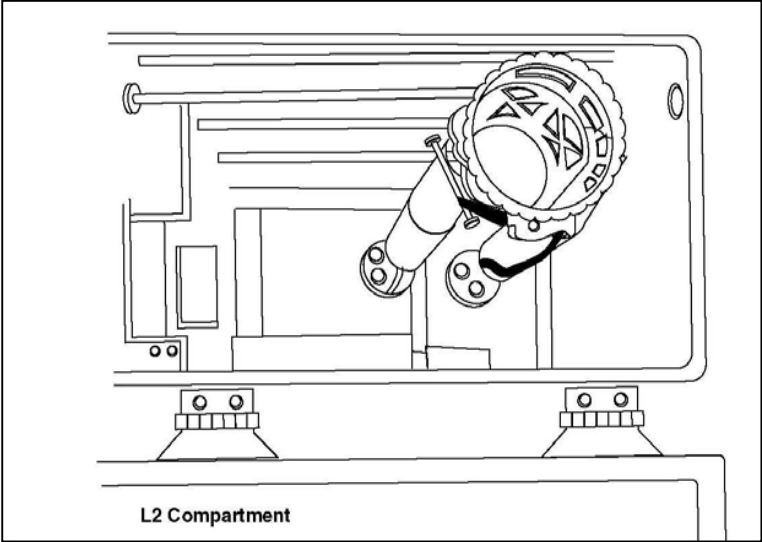

Figure 3-2-1: Tripod Stowage Location
- a. **Tripod.** The tripod is stowed and strapped in the L2 compartment of the rear car (see Figure 3-2-1);